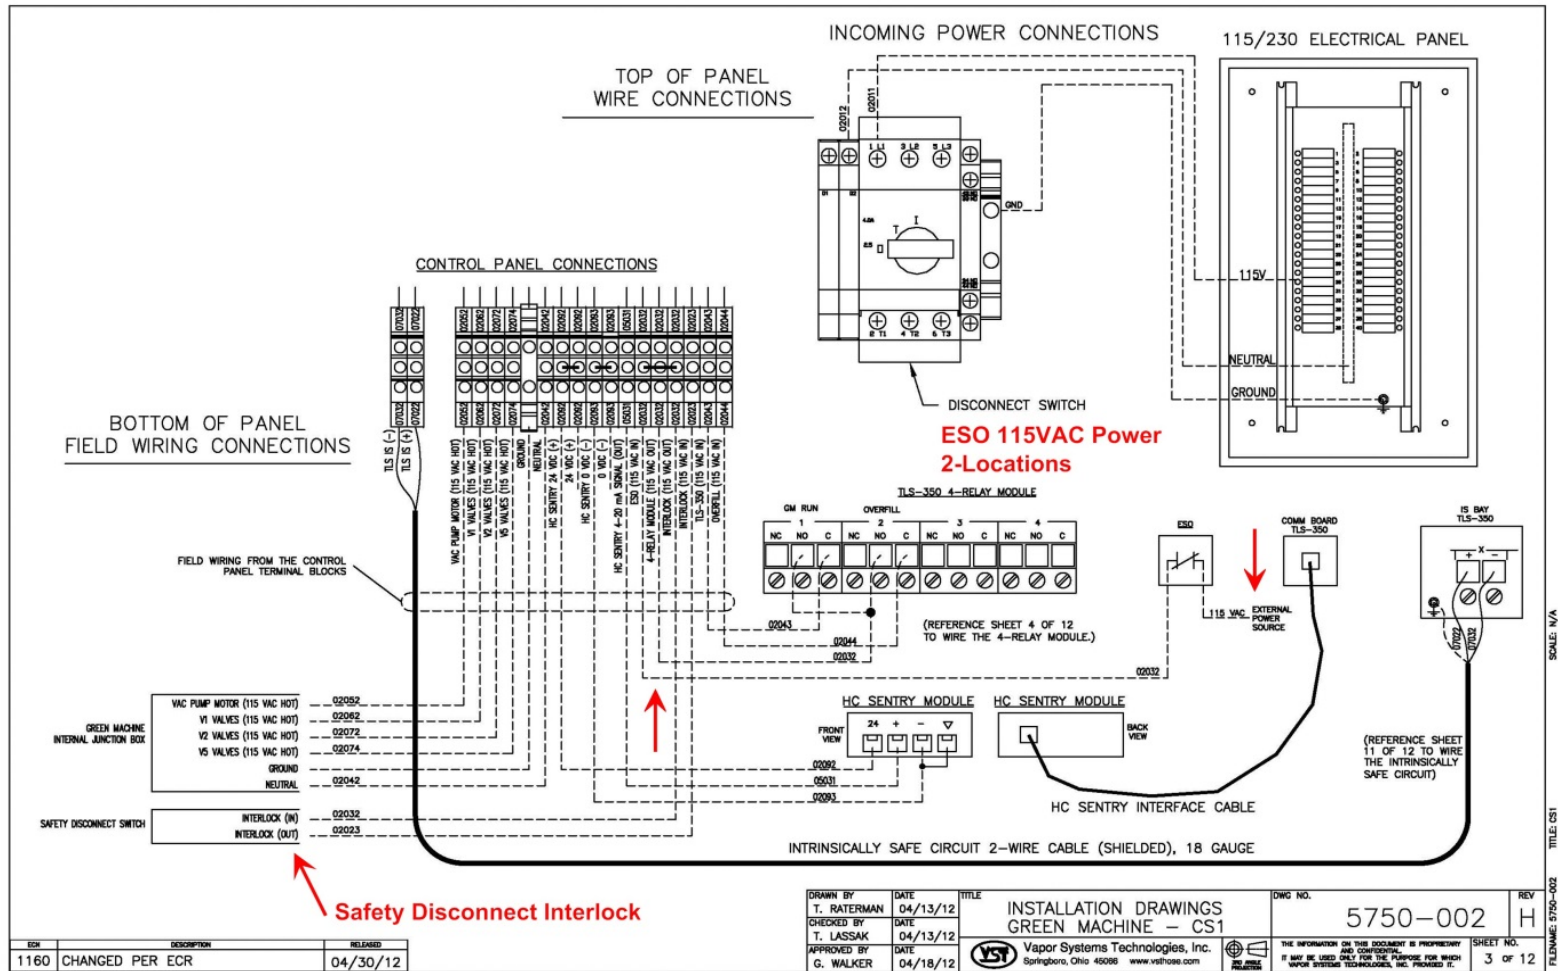

Figure 4: Electrical Field Wiring Diagram - Option 1
See Figure 4.
- c. If a safety disconnect was not installed, a wire jumper must be installed in the VST Control Panel from: 02023 and 02032, **See Figure 4.** The interlock wiring **or** jumper wire must be installed for the *Green Machine* to operate.